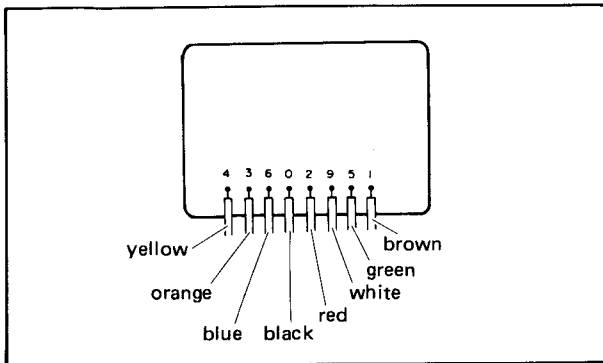

Fig. 4-14
7. Place new lower drum ass'y and reassemble by reversing the above steps. Use care to solder the wires to HEAD board in their proper positions as shown in Fig. 4-14.